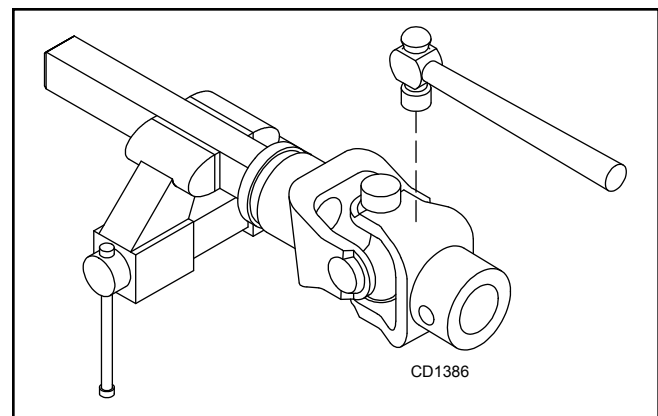

Figure 23. Remove Cups
2. With snap rings removed, support drive in vise, hold yoke in hand and tap on yoke to drive cup up out of yoke. See Figure 23.